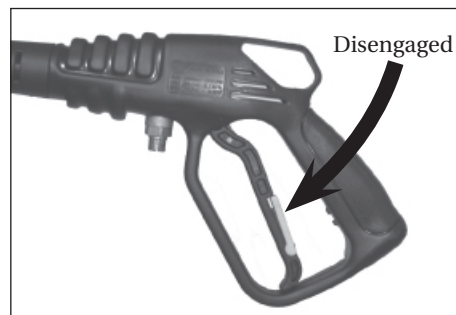

Figure 15 - Trigger unlocked
7. Start the engine. Unlock the trigger safety latch on the gun (See Figure 15). Grasp the starter rope and brace one foot on the chassis. Point the gun in a safe direction. While squeezing the trigger on the gun, pull the starter rope rapidly and firmly (See Figure 16). Continue holding the rope as it returns. Repeat these steps until the engine starts.